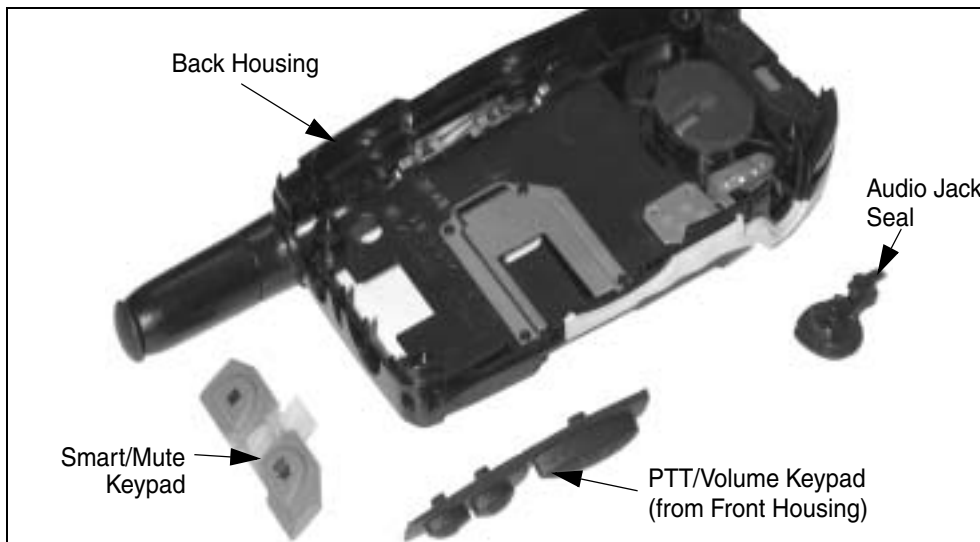

Figure 7-4.
1. Locate Smart/Mute Keypad and Audio Jack Seal in the Back Housing (see Figures 7-4 and 7-5). Grasp and pull pad or seal straight out.